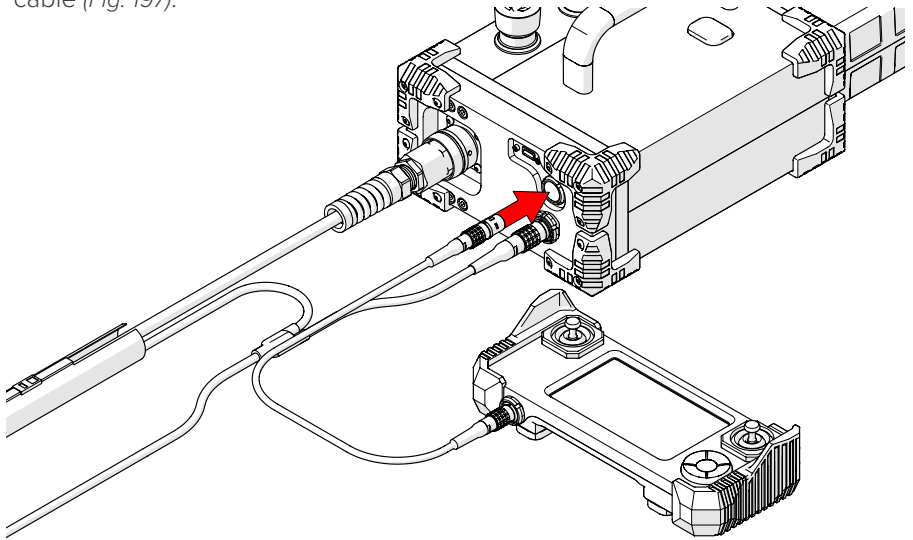

Fig. 197 - Connect handheld controller to power controller
17. Connect the handheld controller to the power controller using the auxiliary cable (Fig. 197).